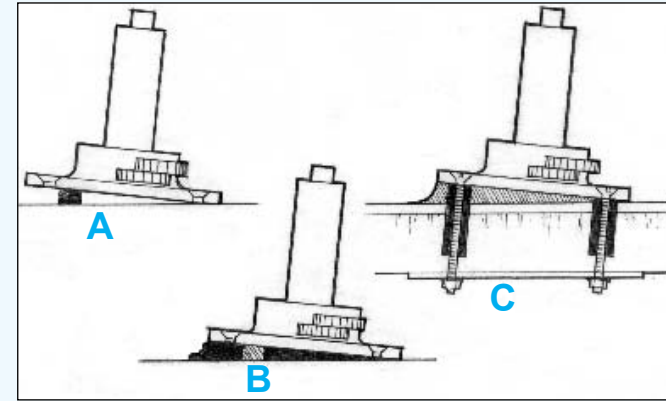

Figure 19 Support the base in position with blocking - apply enough thickened epoxy to fill the void.
2. Bond small blocks to the substrate to support the base at the desired height and position (e.g., *winch base, Figure 19"A*").
4. Place the hardware in position, resting on the blocks (*Figure 19"B*") and install the fasteners.
5. Smooth the excess epoxy into the desired fillet shape around the base (*Figure 19"C*"). Allow the epoxy to cure fully before loading. Protect exposed epoxy from UV. (see *finish coating page 29*).